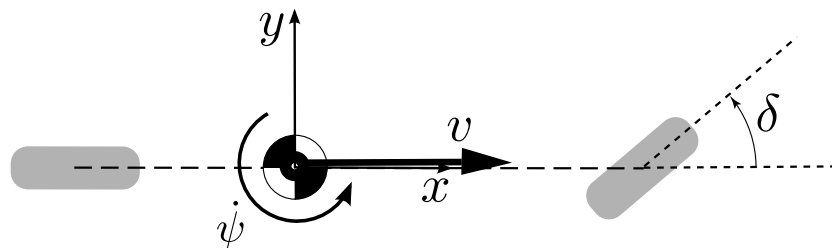

Figure 4: Bicycle model defining steering angle  $\delta$  (drawn in positive direction after “ISO 8855” coordinate system  $\Rightarrow$  z up) and speed  $v$ .
- DE7.3.9 [DV ONLY] Beside RES messages (see DE7.4.8), the messages defined in Table 4 must be provided to the data logger with a cycle time of 100 ms each. Steering angle  $\delta$  and vehicle coordinate system is defined in Figure 4.